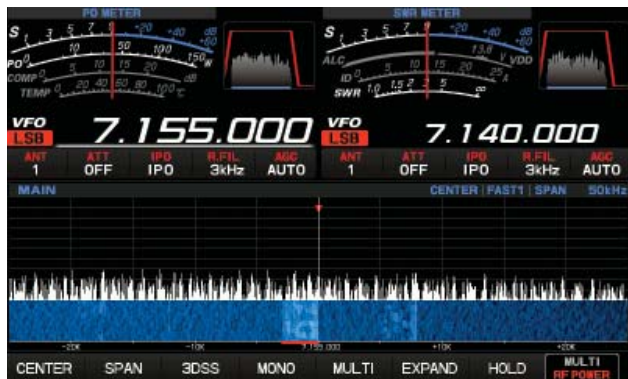
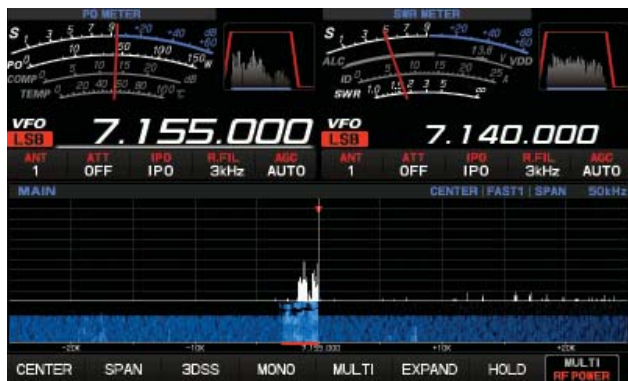

Figure 12 — The Yaesu FTDX101D waterfall screen capture showing noise interference before using the NCC-2 noise canceler.
Figure 13 — The Yaesu FTDX101D waterfall screen capture just after switching on the pre-adjusted NCC-2 noise canceler.
happened on 40 meters; the noise peaked up to 20 dB over S-9. Keep in mind that the NCC-2 is able to null the noise before it even gets into your receiver, which is way better, as it won't add distortion on the received strong signal audio. To null the noise, I set the **PHASE** knob in the middle (5) and started to play with the **BALANCED** knob. I was unable to null the noise right away, so I switched the **B PHASE** switch to **REV** and played with the **PHASE** knob, and the noise was almost gone. Then I fine-tuned using the **BALANCED** and **PHASE** knob. I was able to make the noise disappear completely. You will need to play with the knobs very slowly to fine-tune and achieve the best performance. The NCC-2 made the difference between turning off the radio (as I couldn't hear anything) and listening to an interference-free quality signal. You can see the signal difference in the screen captures from my Yaesu FTDX101D when I switched the NCC-2 on and off (see the transition in Figures 12 and 13). In Figure 12, the NCC-2 is off. Look at the noise on the S-meters in both VFOs. In Figure 13, we can see when the NCC-2 was turned on (it was pre-adjusted). On the main VFO (left) the desired station signal is actually stronger than before, and I can now hear it clearly. If you compare sub VFO signal in Figures 12 and 13 (right), you can actually see the noise drop to the receive signal at this frequency when the NCC-2 was in-line.